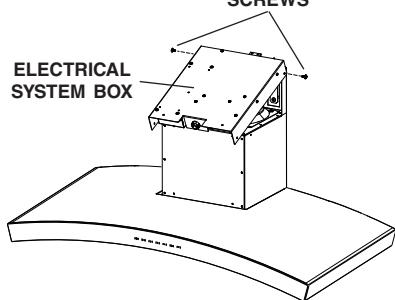

FIG. 10
1. Remove the electrical system box from chimney frame by removing (2) 3.9 x 9.5 mm screws. Fig. 10.
2. Attach electrical system box to frame using (2) 3.9 x 9.5 mm screws removed in Step 1 and (2) 3.9 x 9.5 mm screws and (2) lock washers from hardware bag.